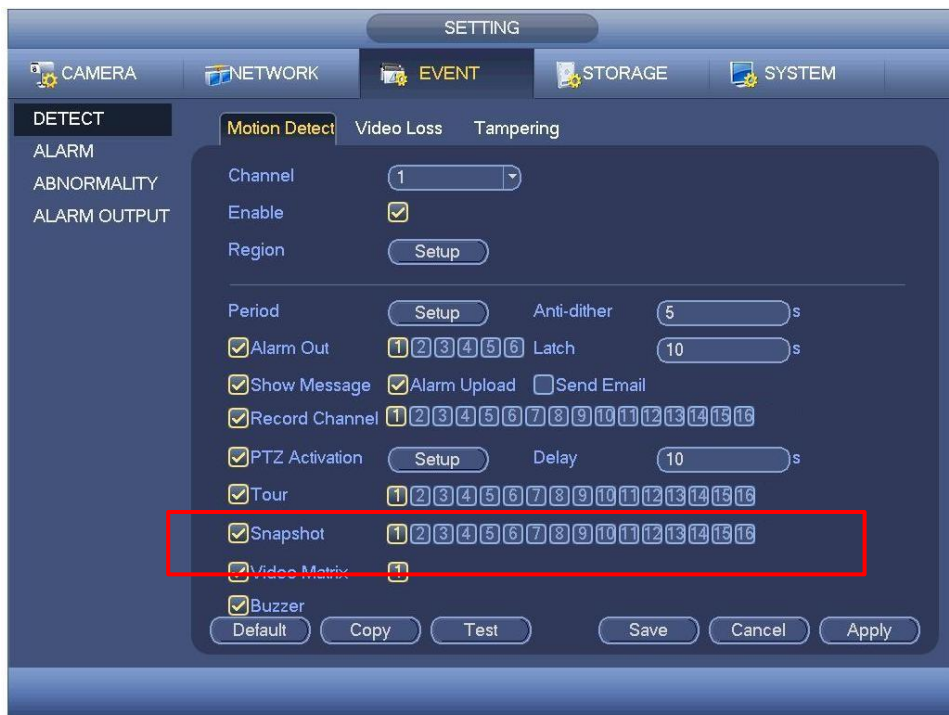
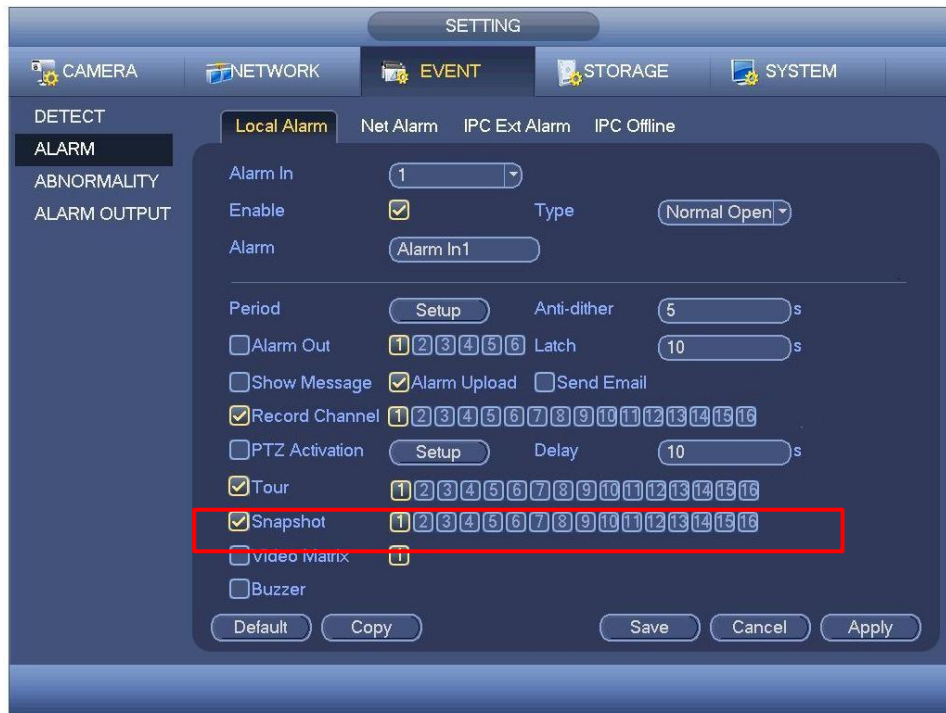

Figure 4-100
Figure 4-101
- In main menu, from Setting->Event->Detect, please enable snapshot function for specified channels (Figure 4-100). Or In main menu, from Setting->Event->Alarm (Figure 4-101) please enable snapshot function for specified channels.